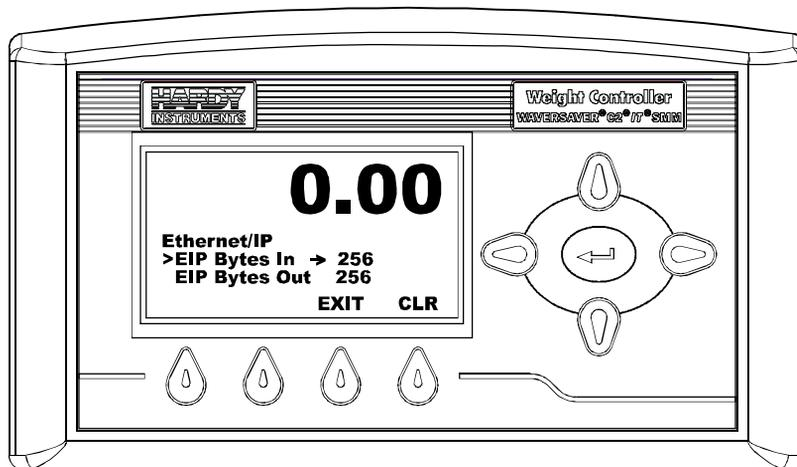

FIG. 130 ETHERNET/IP MENU/SELECTING EIP BYTES IN
Step 10. Press the down arrow button until the cursor is in front of EIP Bytes In. (See Fig. 130)